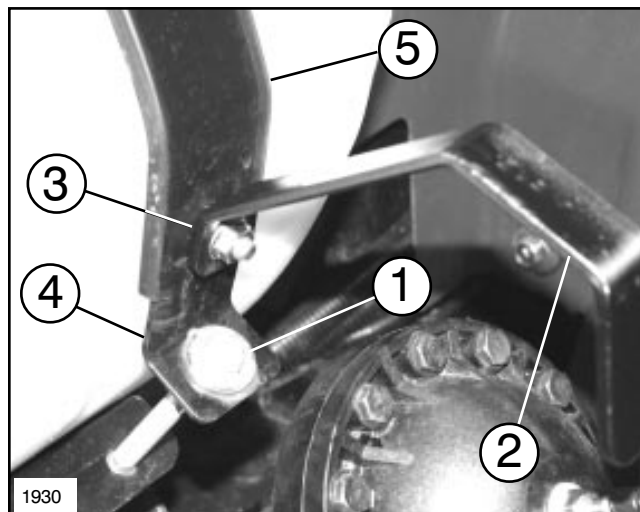

FIG. 1
2. Remove right bolt securing Tank Band to Tank Saddle to allow installation of (3) three 5/16-18 x 3/4" carriage bolts into the (3) three embossed holes in the Tank Band. Hold bolts into place by placing the (2) two 5/16-18 hex nuts onto carriage bolts, hand tighten. See FIG. 1, page 4.